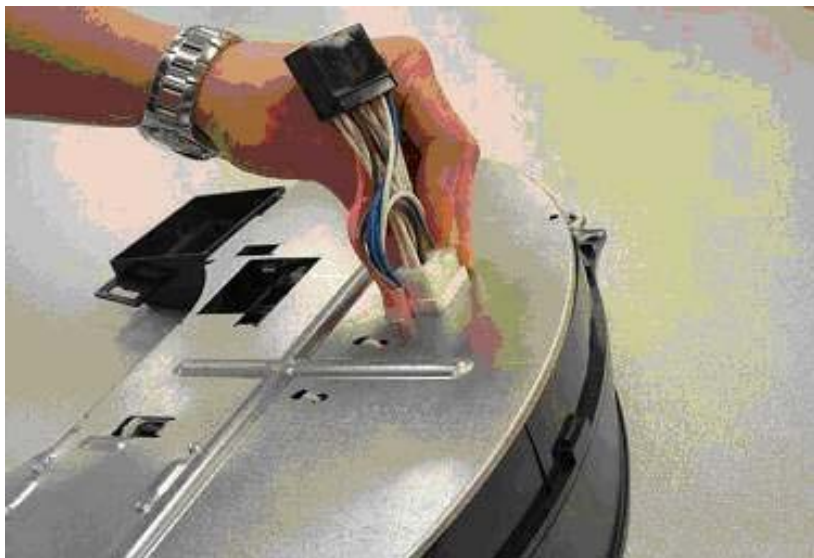

Figure 12 Connect Main Harness
12. Align the rear cover on the cluster and connect the interceptor circuit main harness to the center circuit board (Figure 12).